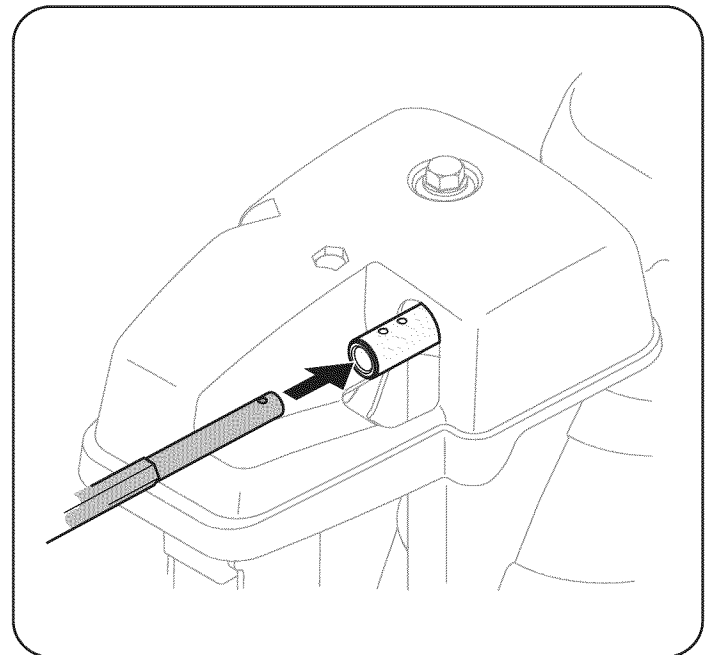

Figure 3
3. Insert chute control rod into input of chute control head. Push rod as far into the chute control head as possible, keeping the holes in the rod pointing upward. See Figure 3.